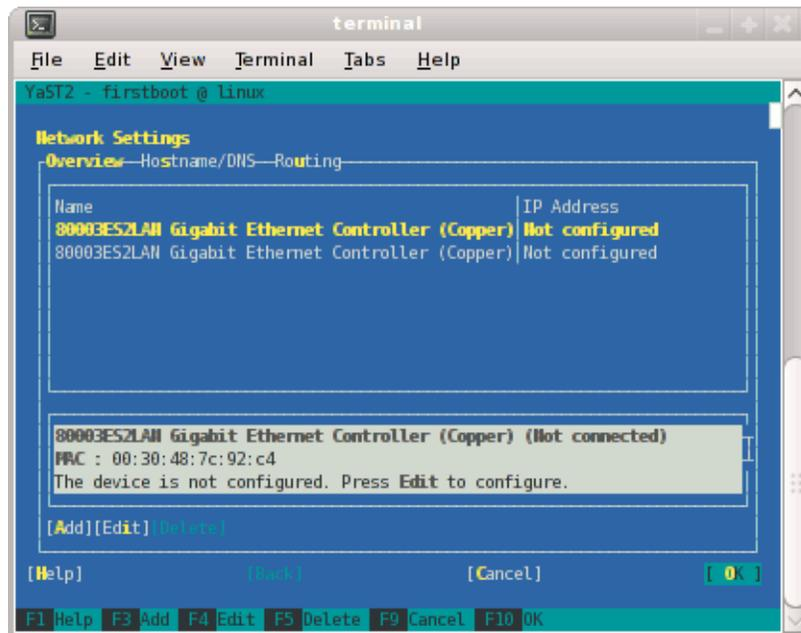

Figure 1-6 Network Settings Screen
7. From the **Network Settings** screen, as shown in Figure 1-6 on page 7, configure the first card under **Name** to establish the connection to your SGI Altix UV system. To do this, highlight the first card and select **Edit**.
Note: In SLES11, this screen is also where we will come back to in order to set up things like the default route and DNS. You can see all of those menu choices just to the right of **Overview** in Figure 1-6 on page 7.